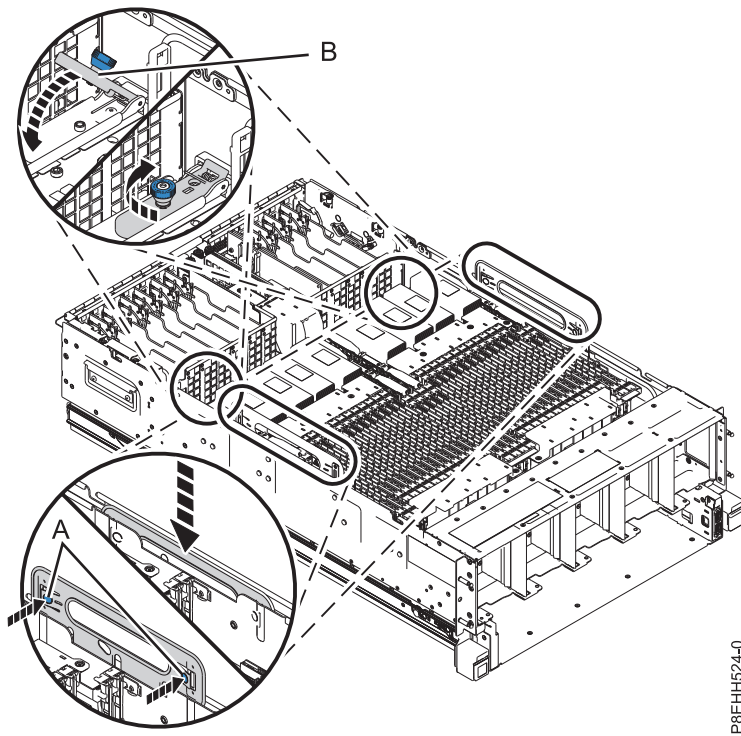

Figure 26. Tightening thumbscrews and lowering handles
- b. Lower the handles (A). See Figure 26.
- c. Lower the hinged brackets (B) and tighten the thumbscrews.